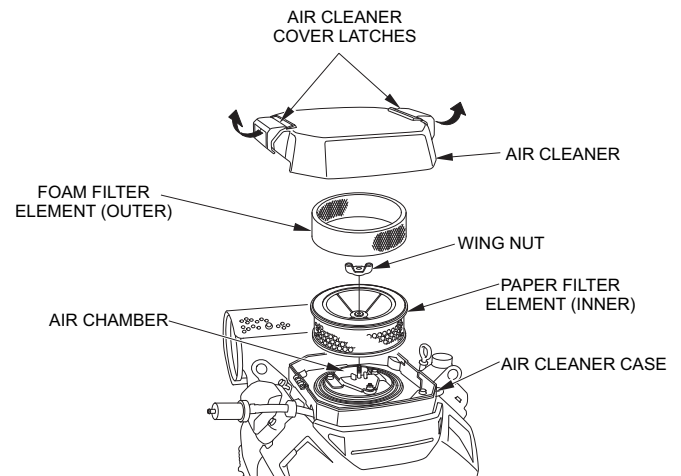

Figure 25. Air Filter Components
1. Release the latch tabs (Figure 25) on each side of the air cleaner cover and remove the cover.